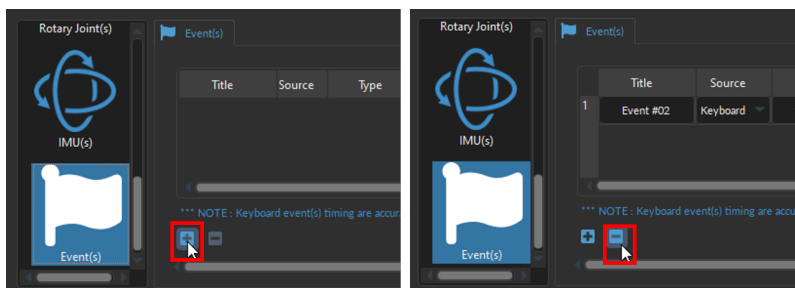

Figure 12.21: Adding and Removing Events
To add a new **Event**, select the + sign at the bottom of the window (Fig. 12.21, left). To remove an Event, use the - button (Fig. 12.21, right).
- **NOTE:** Selecting the + button (without clicking the *Add* button or the *Close* button of the *Channel Configuration* window) will **automatically** add the Keypress Event channel at the **bottom** of the Acquisition View window, below any pre-existing channels (Fig. 12.21).